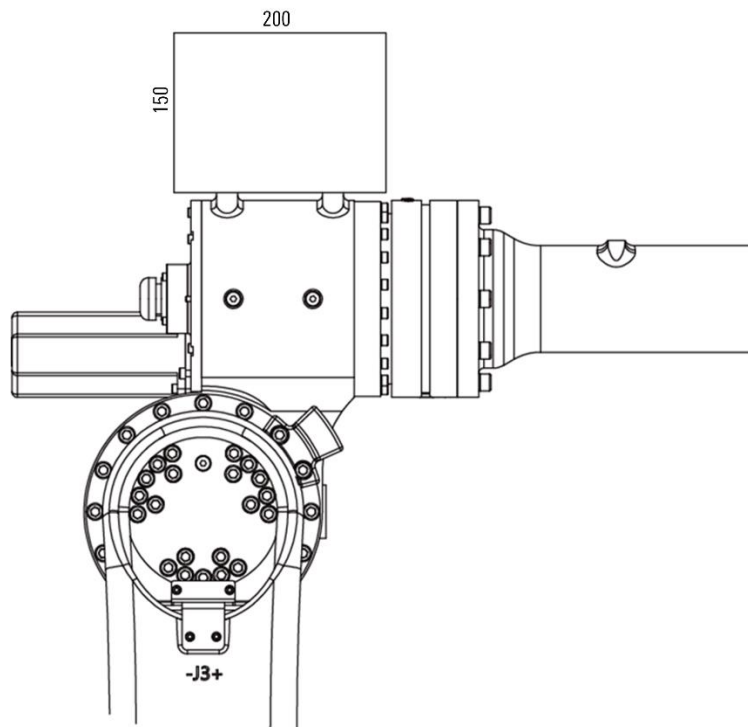

Figure 6-10 Diagram of AIR50-2230A elbow load interface size
- The center of gravity of the elbow load should not exceed the rectangular shape enclosed by the four M8 threaded holes in Figure 6-10, which is 200mm long, 150mm wide, and 150mm high.
The specifications and dimensions of the installation holes for the J3 axis elbow of the AIR50-2230A are shown in Figure 6-10.